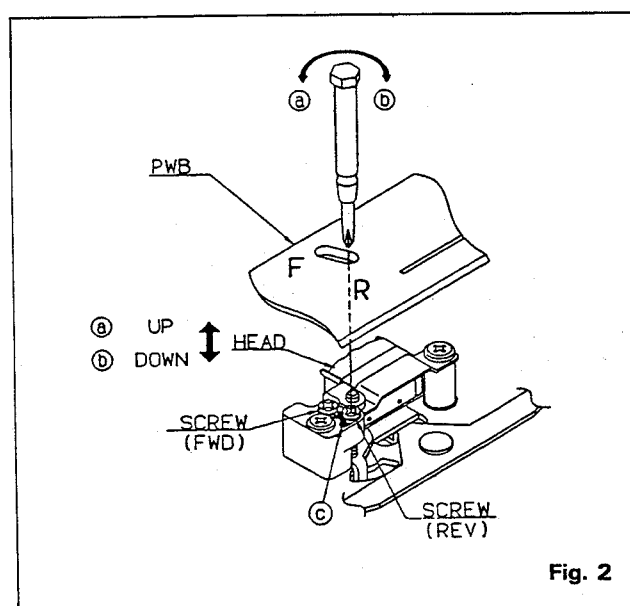

Fig. 2
(1) Play back azimuth tape (10kHz, -10dB) and adjust the screw so that the peak of FWD and REV will be 10kHz. (Refer to Fig. 2)
(2) After completion of adjustment, apply LOCK-TIGHT Bond to the (c) section. (Refer to Fig. 2)